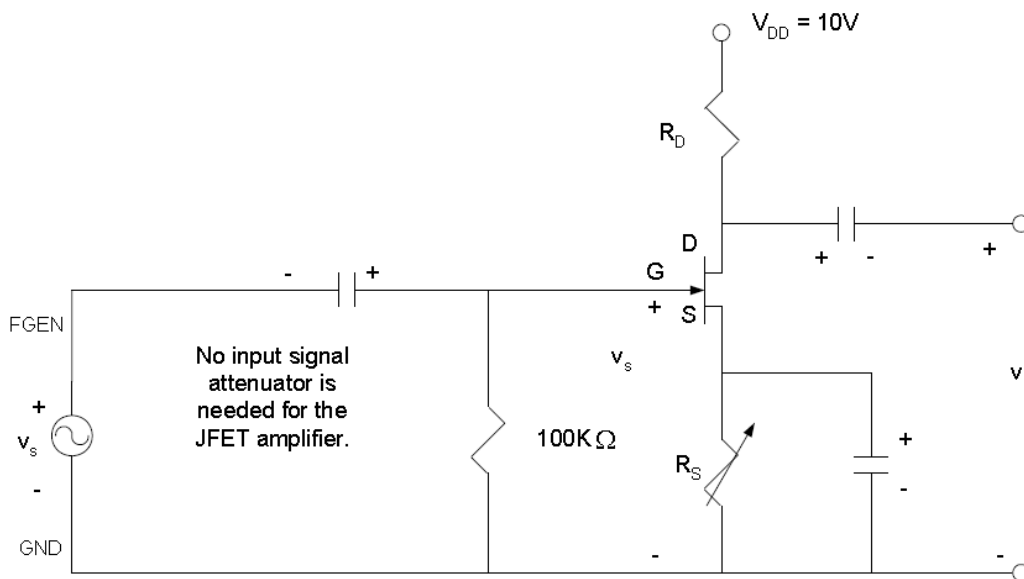

Figure 11.6: Common source amplifier. All C's  $\geq 10\mu\text{F}$  at 25 volts
You should be familiar with biasing of the JFET using a source resistor. You should be familiar with analysis of common-source amplifiers, particularly calculation of the voltage gain. Perform a circuit simulation using B2 Spice for the circuit shown in Figure 11.6 using the values of resistors you have calculated. Use the linear characteristics from Experiment 10 to determine the closest value  $V_{GS}$  to the desired Q-point.
In this lab, a FET common-source amplifier, with self bias, as shown in Figure 11.6, will be studied. For a specified drain current,  $I_D$ , the corresponding gate to source voltage,  $V_{GS}$ , can be determined from plotted transfer characteristics. Since the gate current,  $I_G$ , is negligible, the source resistance,  $R_S$ , is given by
- a. From your Q-point calculated in part 1, determine and record the values of  $R_D$  and  $R_S$  shown in the circuit in Figure 11.6 from the following equations:
- b. Construct the circuit shown in Figure 11.6. Use the values of  $R_D$  and  $R_S$  you have determined.
- ii. Build the circuit in Figure 11.6.